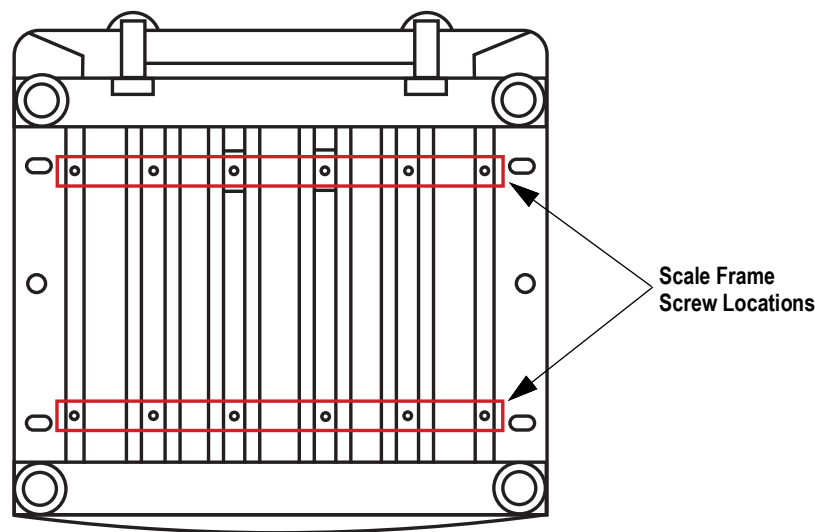

Figure 9. Scale Frame Screw Locations
9. Reinstall the previously removed washers and nuts (see Figure 9).